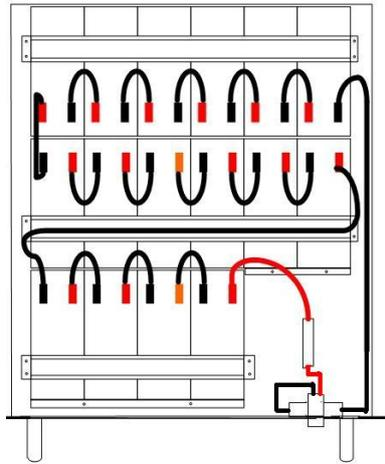

Figure 2.15 Right View of Battery Pack
- 3) Put batteries into battery pack as shown in Figure 2.15 (battery positive and negative terminals must be located on the right side of the battery pack when installing the batteries).
- 5) Measure whether the voltage of every battery pack is normal(192~208V), then measure whether the side lead terminal is short-circuit ,if all of them is normal, connect the battery pack with UPS according to the connecting method shown in following figure 2.15, if the voltage of battery pack is 0V, check whether the battery fuse is disconnect.